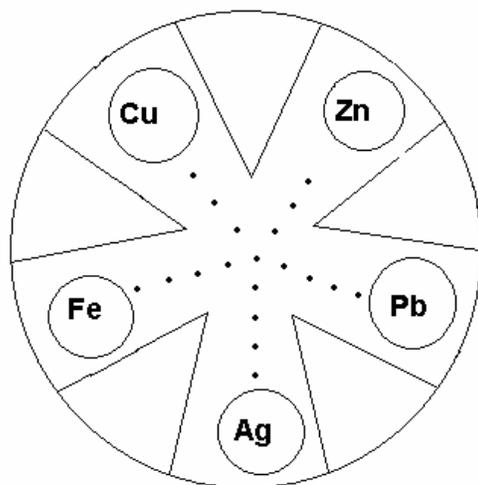

Figure 1
A voltaic cell utilizes a spontaneous oxidation-reduction reaction to produce an electrical current and a voltage. (Note: The term “voltaic cell” means the same thing as the word “battery.”) Half-cells are normally produced by placing a piece of metal into a solution containing the cation of the metal (e.g., Cu metal in a solution of CuSO_4 which ionizes to give Cu^{2+}). In this version of a voltaic cell, the half cell will be a small piece of metal placed onto 3 drops of solution which is on a piece of filter paper. The solution contains the cation of the solid metal. Figure 1 shows the arrangement of half-cells on a piece of filter paper. The two half-reactions are normally separated by a porous barrier or a salt bridge. Here, the salt bridge will be several drops of aqueous NaNO_3 solution placed on the filter paper between the two half cells. Using the computer as a voltmeter, the red lead makes contact with one metal and the black lead makes contact with another metal.
- Obtain a piece of filter paper and draw five small circles in pencil and connect them with dots, as shown in Figure 1. Be sure the dots are not touching—if a solid pencil line connects two metal pieces, it will short out the circuit and no voltage reading will be obtained. Label the circles Cu, Zn, Pb, Ag, Fe. Place the filter paper in the Petri dish (either the bottom part or the cover).